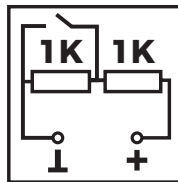

Figure 5. Contact cable connection diagram
**5. Contact In:** Section containing static contact inputs. When a numbered contact input is activated, the Alarm message is transmitted to the output with the same number in the Speaker Out (11) section, while the Alert message is transmitted to the other zones. There are 16 static and 4 programmable business (B1, B2, B3, B4) dry contacts. Any MP3 file can be uploaded to all contacts via the web interface. Business contacts can be grouped by zones. If there is a problem with the cables connected to the activated contact terminals, a General Fault error will be displayed. To locate the fault, the cable connections must be compliant with EN54-16 standards. Please see Figure 5 below.